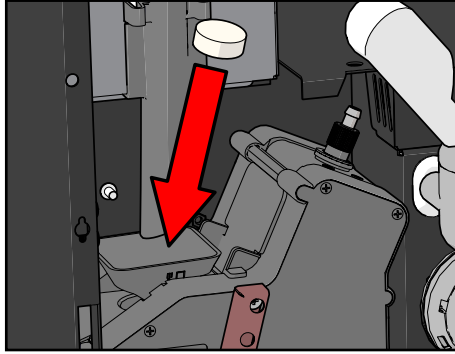

Figure 48.
16. When you are two-thirds of the way through the cleaning cycle, you will hear a beep and see a prompt to insert a cleaning tablet. Open the door and throw the cleaning tablet into the top of the espresso brewer (see Figure 48). Close the door and follow the instructions on the screen. The cleaning cycle takes a few minutes.